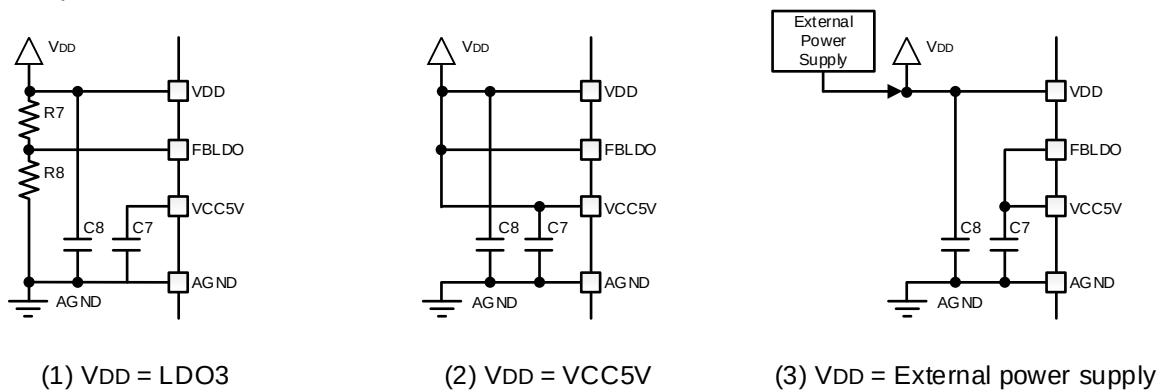

Figure 5-2 VDD Pin Voltage Supply Methods
(1) Supply using LDO3
The external connection and components are shown in **Figure 5-2 (1)**. The LDO3 output voltage VDD is determined by the bleeder resistors (R7, R8) that are fed back to the FBLDO pin, allowing fine adjustment of the output voltage within the recommended operating conditions. The bleeder resistors should be selected based on **EQ 5-1**. Increasing the total value of the bleeder resistor can reduce the current consumption in Sleep Mode. However, note that the stability is reduced by the pole determined by the parasitic capacitance of FBLDO pin and the bleeder resistors.
(2) Supply 5V from the VCC5V pin
The external connection and components are shown in **Figure 5-2 (2)**. A $0.1\mu\text{F}$ ceramic capacitor is recommended as a decoupling capacitor (C8) for the VDD pin. This capacitor should be placed as close as possible to the VDD and AGND pins.
(3) Supply using an external power supply
The external connection and components are shown in **Figure 5-2 (3)**. Connect an external power supply to the VDD pin. Also, connect the FBLDO pin to the VCC5V pin. Note that the recommended operating voltage range VDDope for the VDD pin voltage is limited from 3.135 to 5.25V. A $0.1\mu\text{F}$ ceramic capacitor is recommended as the decoupling capacitor (C8) on the VDD pin. This capacitor should be placed as close as possible to the VDD and AGND pins.